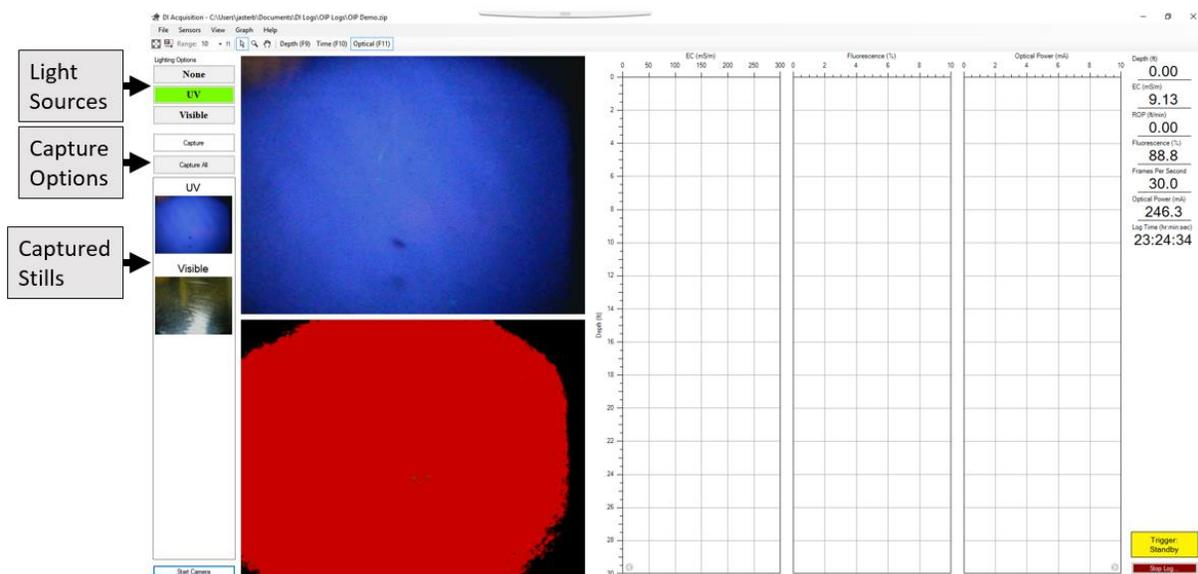

Figure 5.10
3. Wait for the captured stills to appear below the capture options (Fig. 5.10) and the light source to return to UV.